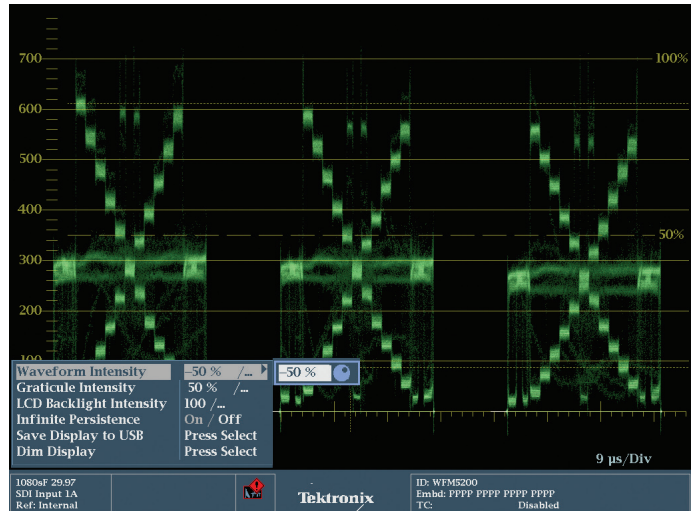

Figure 5-2. This shows the results of steps 5-9.
9. Use the General dial to minimize the brightness of the trace. -50% is the minimum (Figure 5-2).